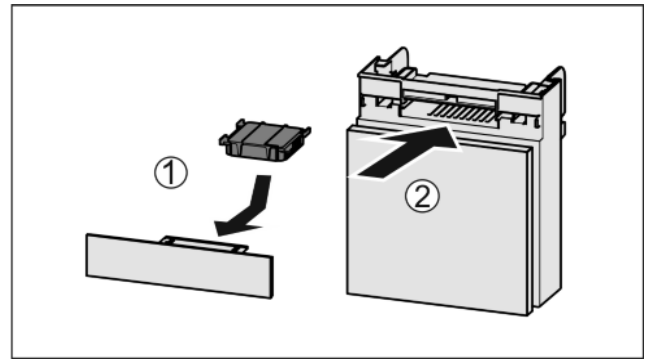

Fig. 34
- ▶ Insert the carbon filter as shown in the diagram Fig. 34 (1).
- ▶ Push the compartment in Fig. 34 (2).